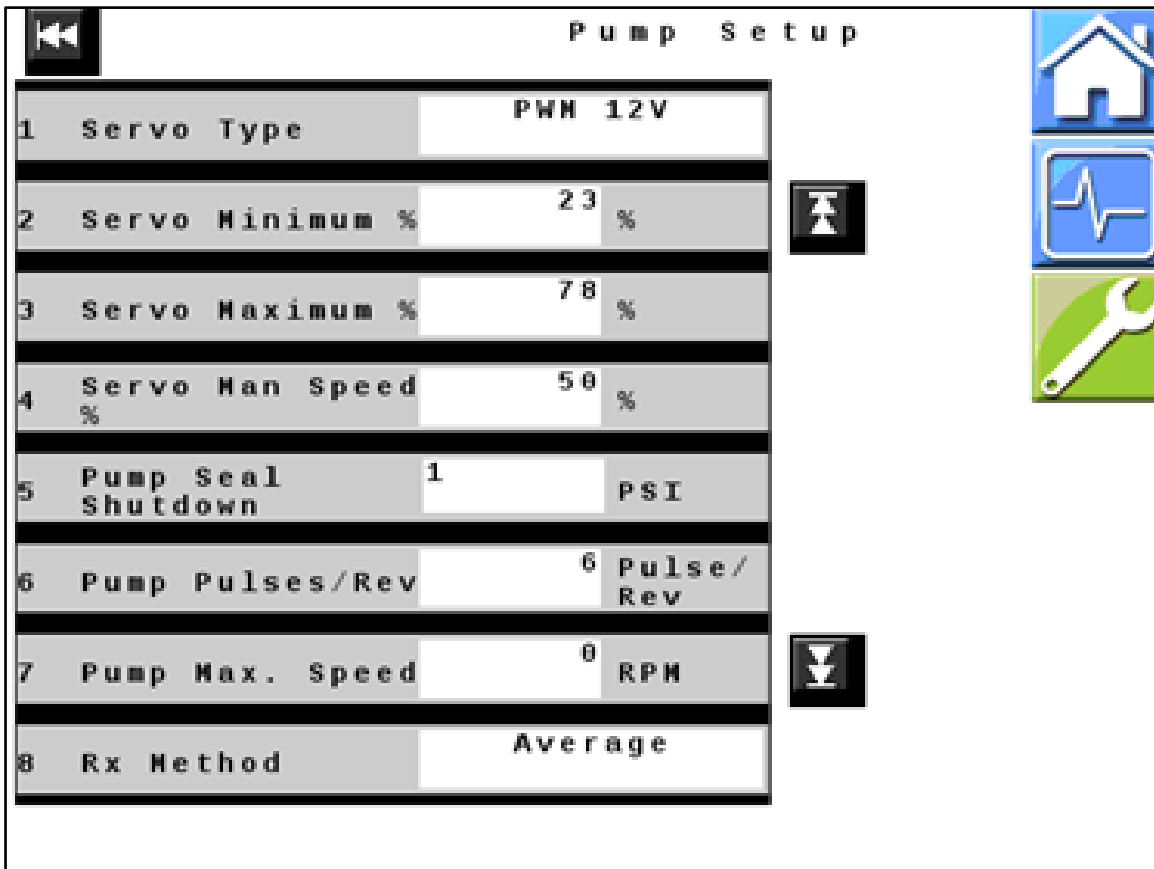

Figure 11 — Pump Setup Page 1
18. *Figure 11*: Verify that all values displayed on your unit match those shown here. Change values if necessary.